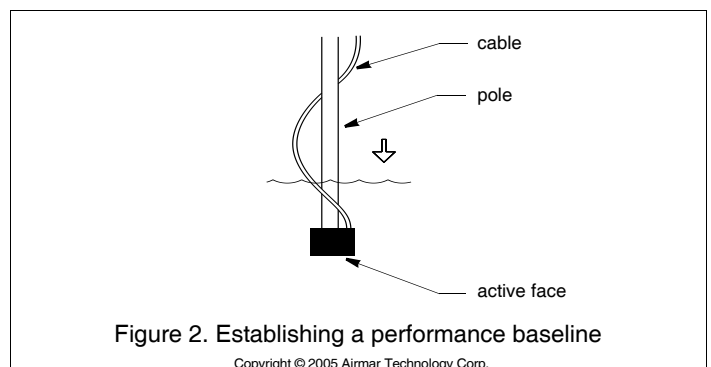

Figure 2. Establishing a performance baseline
3. Tape the transducer to a pole, cable side up. *Do not tape over the active face.* Hold the transducer over the side of the boat with the active face fully submerged and parallel to the water surface (see Figure 2).